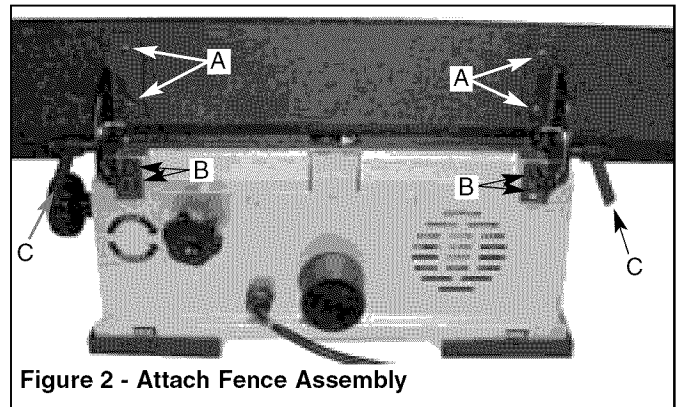

Figure 2 - Attach Fence Assembly
Refer to Figures 2 and 3.
- Attach fence bracket assemblies to fence using four M6 x 20 screws and lock washers. There is a right side and a left side bracket assembly. See Figure 2 for correct installation. Do not completely tighten screws.
- Completely tighten all screws. Secure fence in position with locking handles (C). See Figure 2.